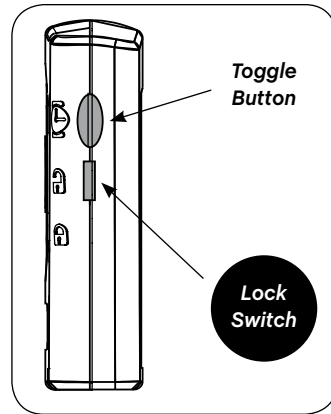

figure 11A: Slide to Unlocked Position
- A. Check to make sure the *Lock Switch* is in the 'unlocked' position (Figure 11A).
Once satisfied with the treatment settings, the settings may be locked to prevent unintentional shutoff during treatment by sliding the *Lock Switch* down into the 'locked' position as indicated by the symbols on the **sam** Power Controller (see Figure 11A). In this state the settings cannot be changed until the *Lock Switch* is moved back to the 'unlocked' position.